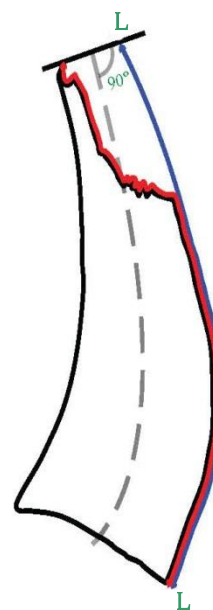

Figure 2
1. Length. Measure the length on the front curve of each horn from the base to the tip. (Figure 1) In case the horn has a piece missing or has grooves or holes, the tape measure must bridge such gaps and must not be pushed into the depressions. (See Figure 1, rear horn, L) Many rhinos have a broken horn or worn tips, and they must be carded off at the tip in order to get an accurate measurement of horn length. (See Figure 2 and General Instructions for carding off.) Make sure the tape measure is not pressed into the broken area or indentations, grooves, or holes, which would increase the length. Measure the front of the horn along the outer curve. Start where the hide stops and the short hairs of the base of the horn start.